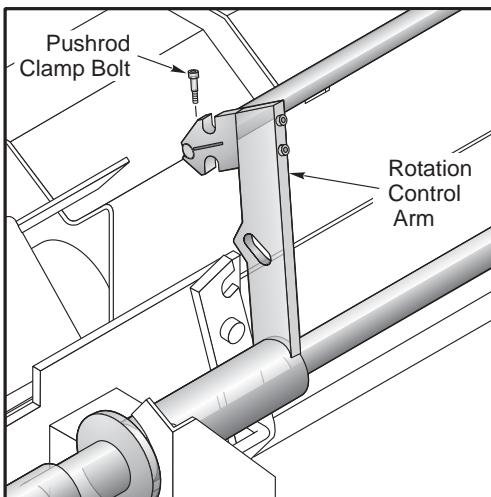

Figure 4.1 Pushrod control arm and rotation control arm
2. Loosen the socket head clamp bolt on the rotation control arm. Refer to Figure 4.1.